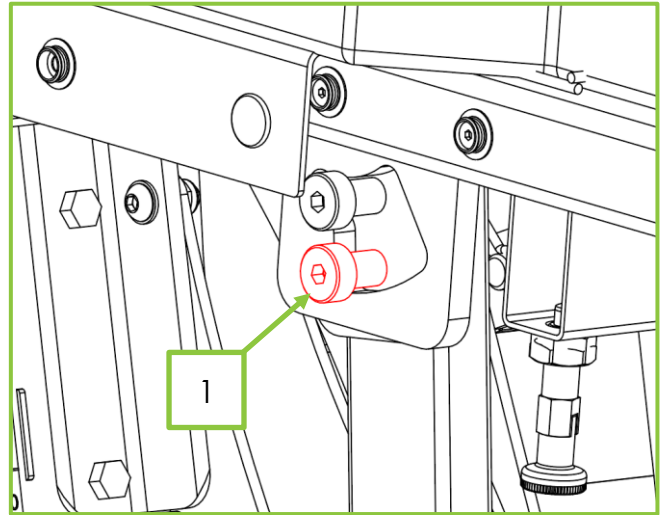

Figure 29
1. The chair is delivered with this function locked. Remove the lock bolts on both LHS and RHS side on the chair using an Allen key. Ensure the correct bolts (Fig 29, Item 1) are removed.